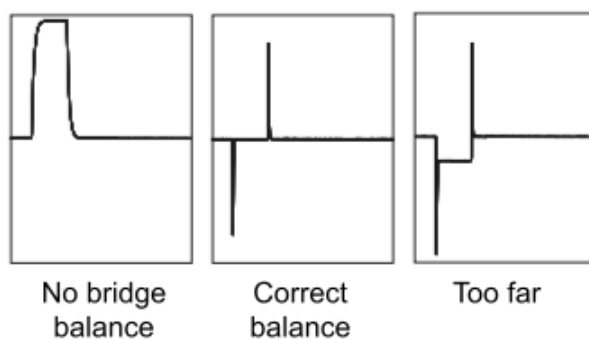

Figure 2
7. There will still be “rabbit ears” or transients – these are large spikes when you turn the current on and off – but very little change in standing voltage (Figure 2).